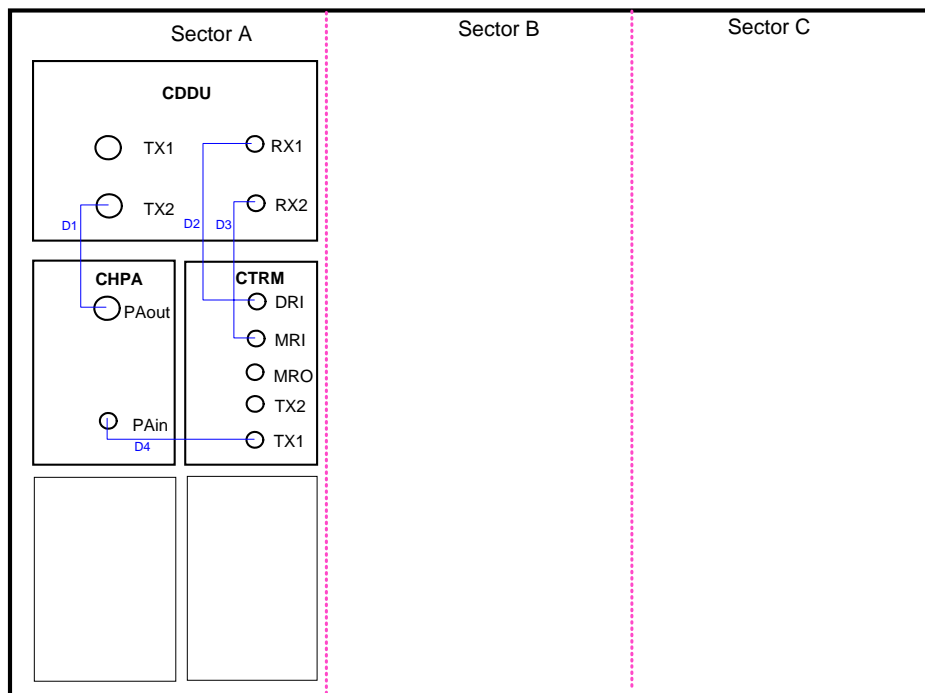

Figure 4-1 O(1) configuration
I. O(1) Configuration
The O(1) refers to an omni cell with one carrier. Figure 4-1 shows RF cable connections, indicated by blue lines.